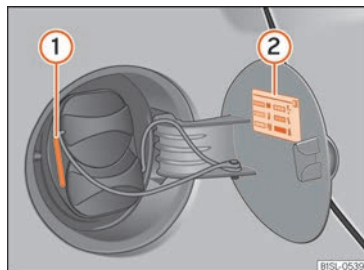
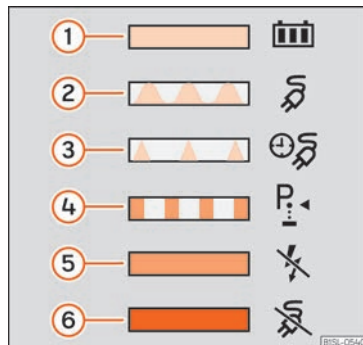

Fig. 155 Behind the cover of the battery charging socket: charging process display (1) and information on the sticker (2).
Fig. 156 On the inside face of the cover of the battery charging socket: sticker with information on the charging process display.
>>> **Fig. 155** (1) and it indicates the charge level. There is an sticker that explains the different indications >>> **Fig. 156**.
Key to the information sticker of the charging process display >>> **Fig. 156**: